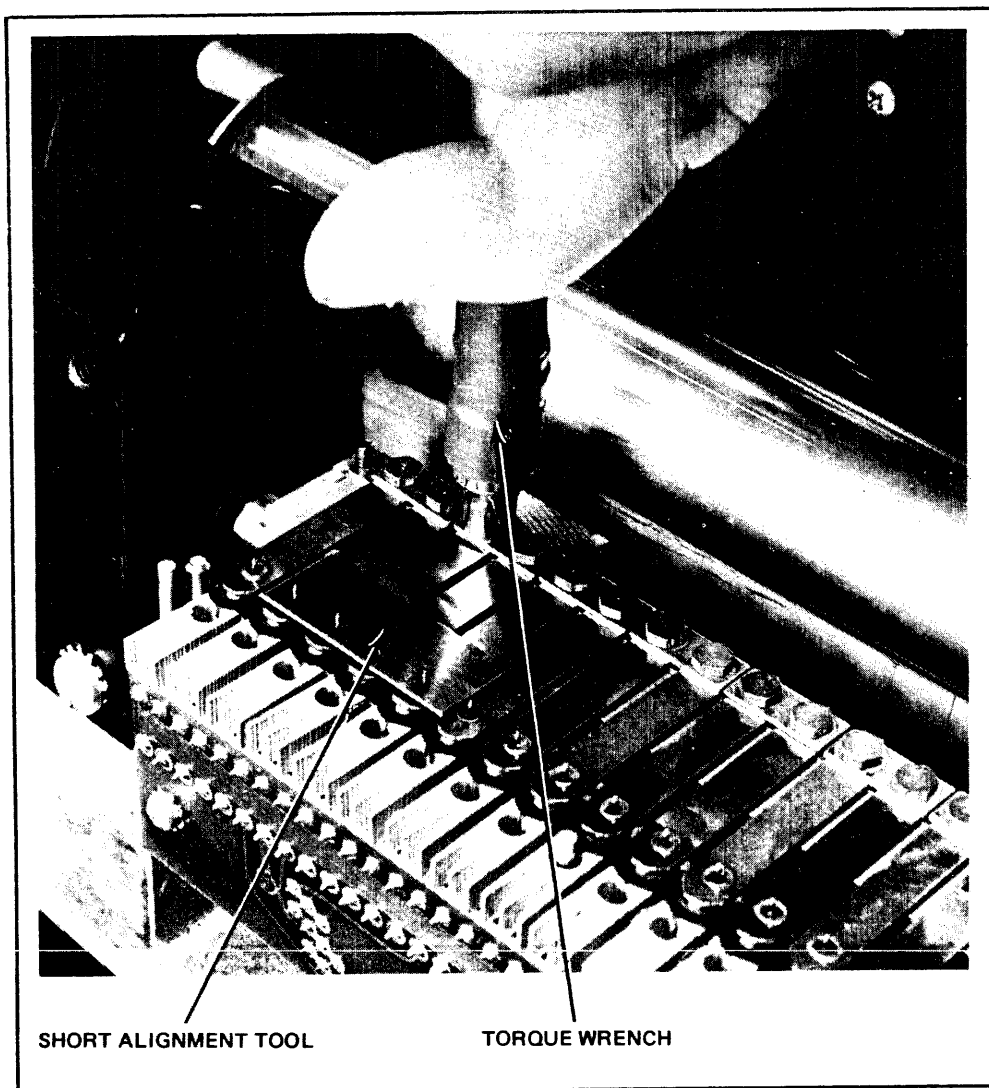

Figure 53 Using Short Drilled Hammer Alignment Tool
- i. If the short drilled hammer alignment tool is used (figure 53), fit hammer pins adjacent to the pin to be adjusted, with the adjusted pin resting in its respective hole.